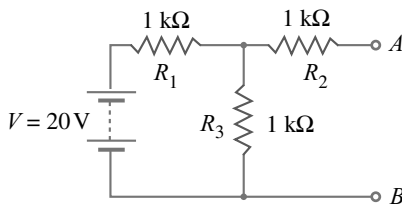

Fig. 1.34
**Example 1.11.** Find the Thevenin's equivalent circuit for Fig. 1.34.